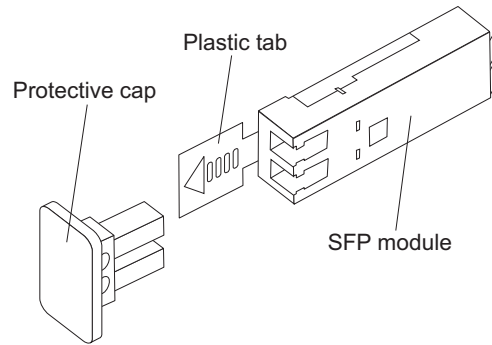

Figure 26. SFP module and protective cap
2. Remove the protective cap from the SFP module, as shown in Figure 26. Save the protective cap for future use.
2. If necessary, remove the protective cap from the SFP module, as shown in Figure 26 on page 52. Save the protective cap for future use.